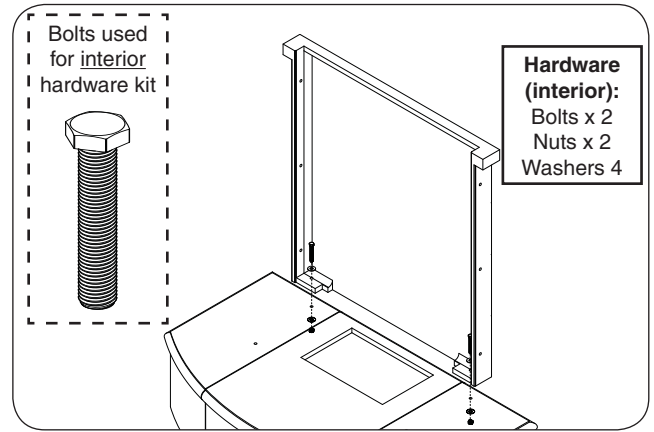

Fig. 18-1 Assemble body - rear wall
1. Place the body rear wall piece on top of the hearth. Carefully align the pilot holes, insert the hardware (interior hardware kit) in the order shown, and only hand tighten at this stage. See Fig. 18-1.